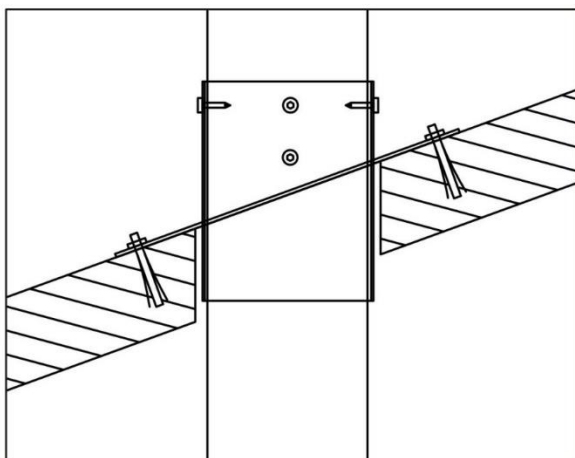

Figure 7
⑧Please refer to figure 7 & 8 for installation mode of inclined roof.